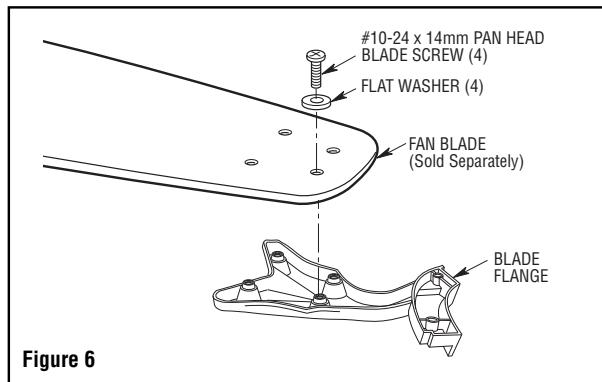

Figure 6
11. Use four #10-24 x 14mm pan head screws and flat washers (supplied) to secure flange to blade (Figure 6). Repeat for the remaining four blades. Illustration may not show the exact flange you are installing.